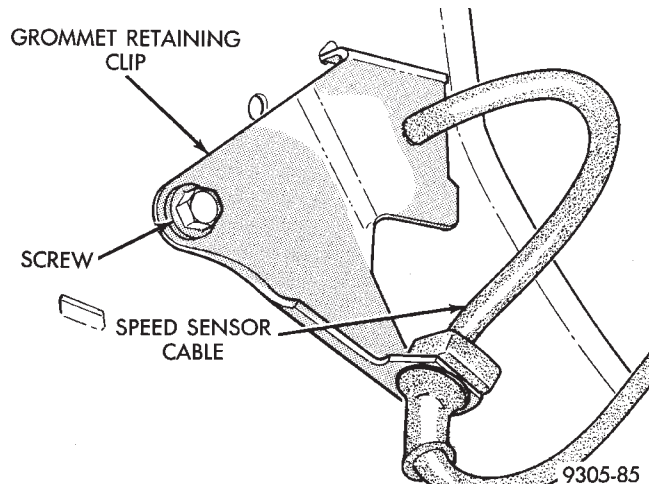
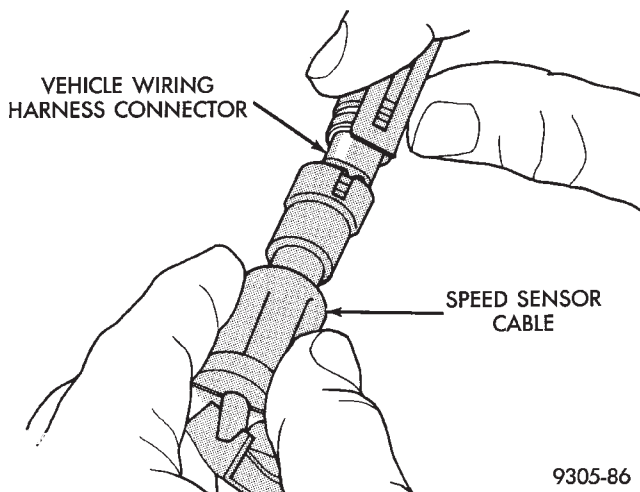

Fig. 29 Front Speed Sensor Cable Retaining Clip
Fig. 30 Speed Sensor Cable To Wiring Harness Connection
(1) Raise vehicle using a frame contact type hoist or supported as required using jack stands. See Hoisting in the Lubrication and Maintenance group of this service manual for the required hoisting or jacking procedure to be used for this vehicle.
(2) Remove the tire and wheel from the vehicle.
(3) Remove screw attaching the grommet retaining clip to the fender shield (Fig. 29).
(4) Carefully, pull the speed sensor cable grommet from the fender shield.
(5) Unplug speed sensor connector from vehicle wiring harness connector (Fig. 30).
(3) Connect speed sensor cable connector, to vehicle wiring harness connector (Fig. 30). Be sure locking tab on connector is securely latched.
(4) Push speed sensor cable grommet into hole in fender shield. Install grommet retaining clip and screw (Fig. 29).